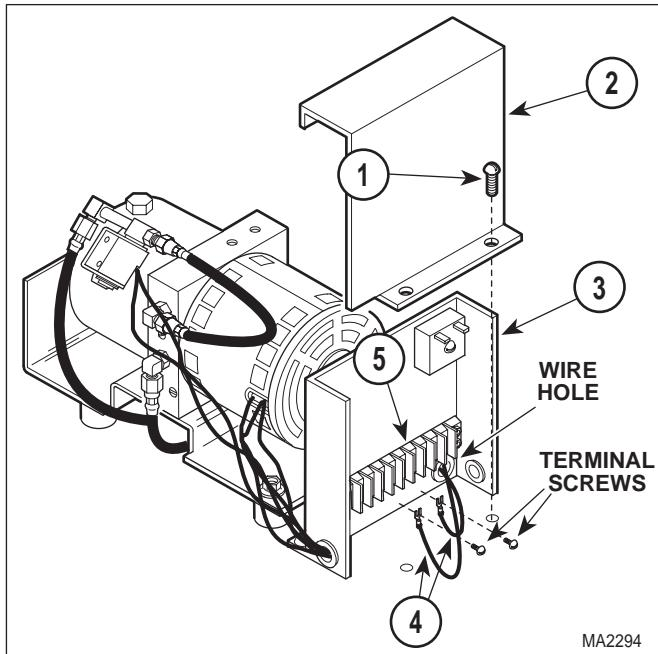

Figure 4-18. Base Cylinder Wires Disconnection / Connection
- (5) Remove four screws (7) and brace (8) from base slide assembly (9).
- (6) Plug table power cord into outlet.
- (7) If BASE DOWN function is operable, place a block under middle slide of base slide assembly (9). Then lower the BASE DOWN function until the middle slide of the base slide assembly is resting on block and pressure is off clevis pin (10). If BASE DOWN function is not operable, move table top to a horizontal position and place supports under each end of table.
- (8) Remove two screws (1, Figure 4-18) and control cover (2) from control panel (3).
- (5) Install base cylinder (3) on brackets (6) and secure with clevis pins (2 and 5) and hitch pin clips (1 and 4).
- (6) Feed base cylinder wires (4, Figure 4-18) thru wire hole.
- (7) Connect two base cylinder wires (4) to terminal block (5) and secure by tightening two terminal screws.
- (8) Install control cover (2) on control panel (3) and secure with two screws (1).
- (9) Plug table power cord into outlet.